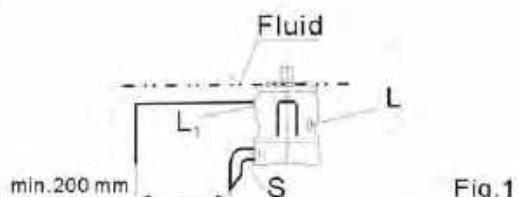

Fig. 1
- a) If the minimum fluid level is equal to or above the pump mounting face close port "L1" plugged, leave ports "L" and "S" open; L piped and recommendation S piped (see Fig. 1).